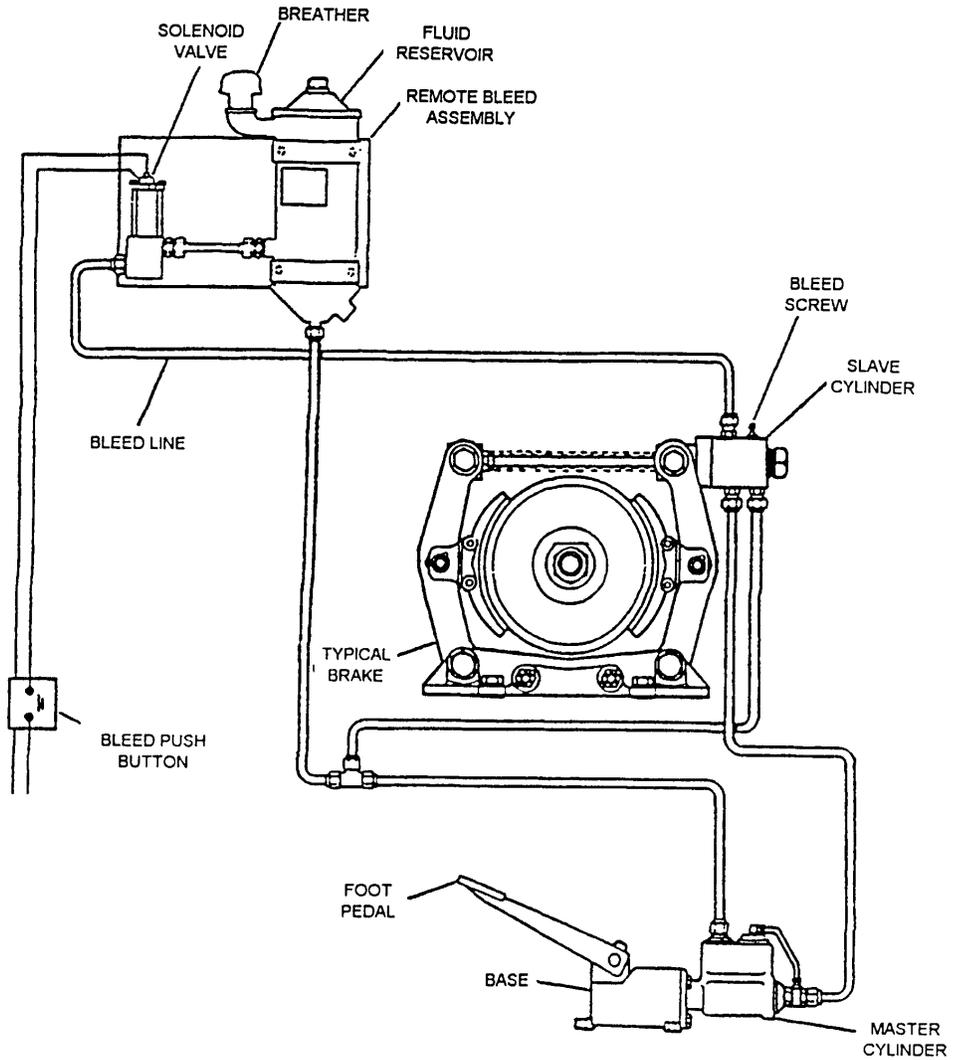

Figure 3
- 2.3.(a):** Single brake, single station, with manual bleed. See Fig. 3.
- 2.8: The means to purge the hydraulic system of aerated fluid during the initial installation and for regular maintenance or overhauls is required and is referred to as "BLEEDING". Manual bleeding is standard as shown in Fig. 3 and 5.
5.6.(c).(vi): As noted in **Fig. 3 through 8**, the minimum bend radius for either hose at the slave cylinder is **4 inches**.
6.5: Refer to the hydraulic circuit for the actual installation Fig. 3 – 8, specifically the portion of the circuit between the reservoir and the master cylinder and particularly the branch to the rear end of each slave cylinder. Gravity will provide the necessary flow to accomplish bleeding this portion of the circuit.